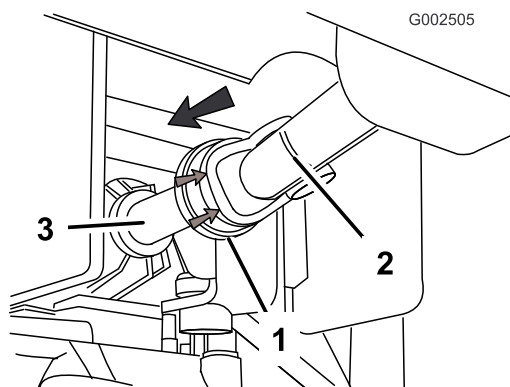

Figure 10
1. At the front yolk of the PTO drive shaft, align the socket of the front yolk with the splines of the PTO output shaft on the transaxle (Figure 10).
2. Pull the spring lock (rubber cowling) at the front yolk of PTO drive shaft rearward (Figure 10).
3. Slide the socket of the front yolk over the output shaft splines (Figure 10).
4. Push the spring lock of the front yolk of PTO drive shaft forward (Figure 10).
5. Pull back the front half of the drive shaft to ensure that the locking balls of the spring lock are seated in the groove of the PTO output shaft (Figure 10).